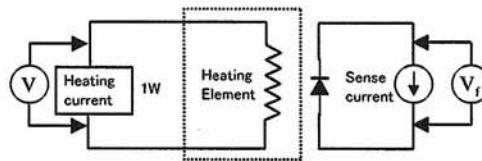

Figure 2. Diode as Temperature Sensitivity Parameter.
1. The heat generated by the power transistor in the IC is dissipated to the air through the case. To investigate the thermal resistance from junction to case, a diode shown in Figure 2 is used as the temperature sensitivity parameter together with a heating element (to emulate the heat from power transistor).